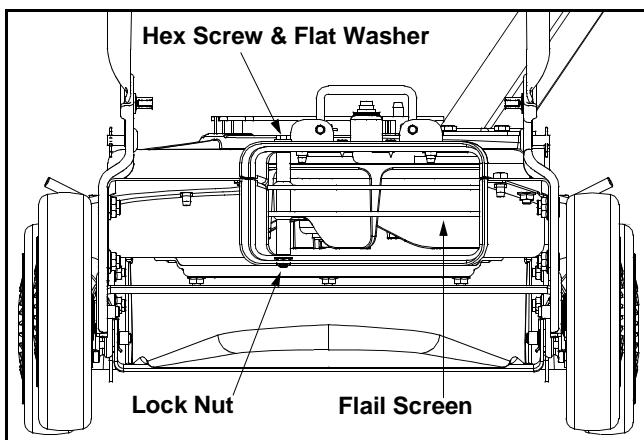

Figure 9
- Remove the bag or blower chute from the unit as instructed in the OPERATION section to obtain access to flail screen. See Figure 9.
- Remove hex screw and flat washer on top of rear housing mounting bracket and the lock nut that secures flail screen. See Figure 9.